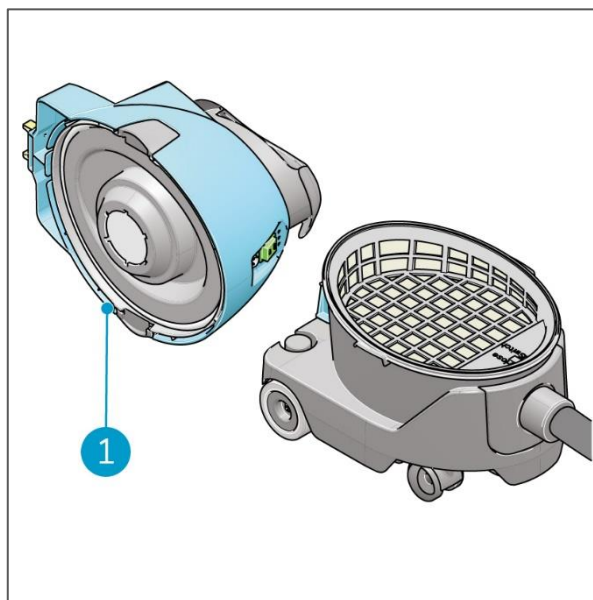

Figure 10
5. Place the head on its side on a level surface (Figure 10, pos 1).